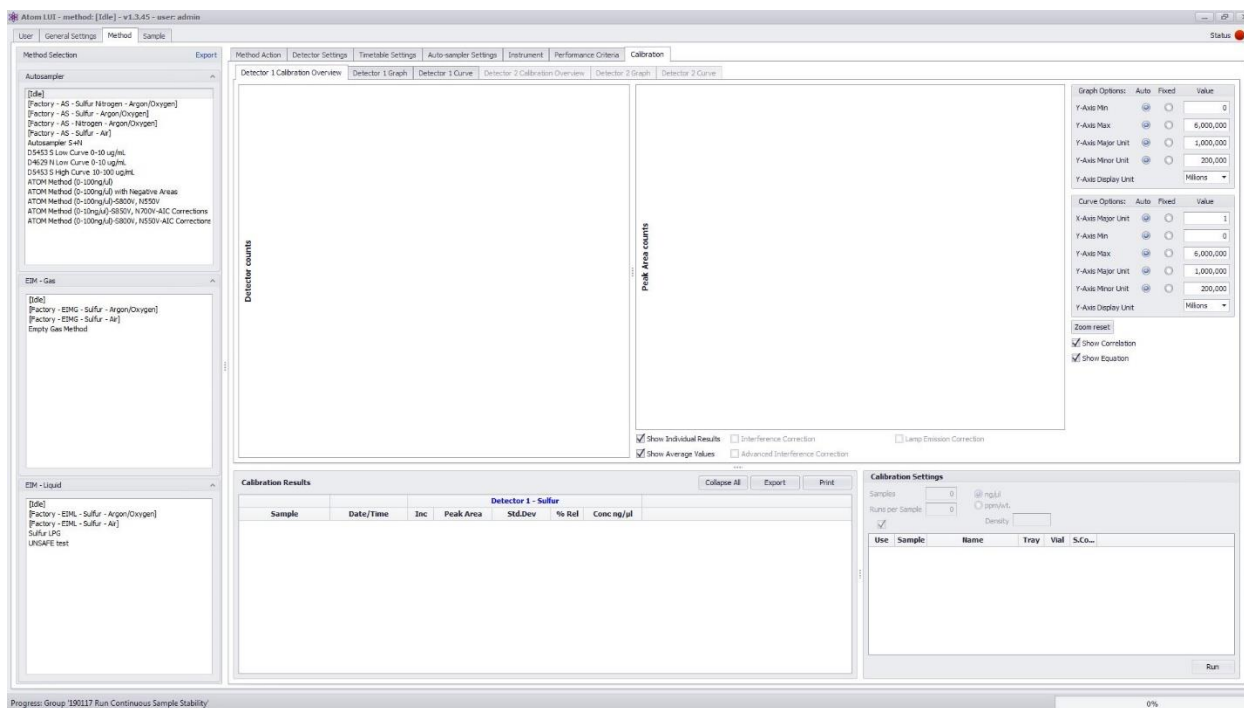

Figure 17 Calibration Tab
- Select the “Calibration” tab (*Figure 17*)